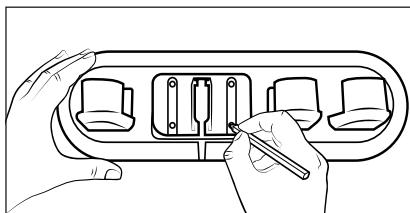

Fig. 5
- 3) Use the accessories holder 16 to mark the four drill holes on the wall (see Fig. 5).